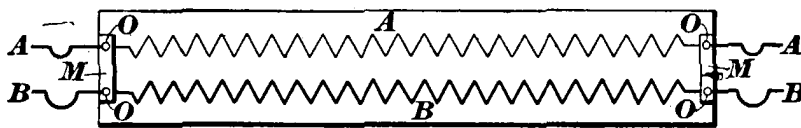
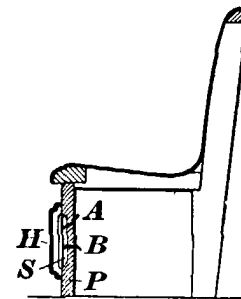

FIG. 34.
FIG. 35.
33. Connections for Johns Heaters.—Fig. 34 gives the general outline of the Johns class E heater and also shows how the wires on the inside are brought out to the binding posts *O, O, O, O*; the resistance wire in the heater is in two parts that do not touch each other anywhere. In Fig. 34, *A* is the top part and *B* the bottom part; the binding posts to which they connect are set on porcelain bases *M*, which, of course, keep them apart. Wires *A*; *A* and *B*, *B* on the ends connect the heaters together on the inside of the panel, as shown in Fig. 35, which is a section of a closed-car seat with a
class E heater mounted upon it. In Fig. 35, *A* and *B* are the wires by means of which the heaters are connected together; *H* is the heater; *P*, a cross-section of the seat